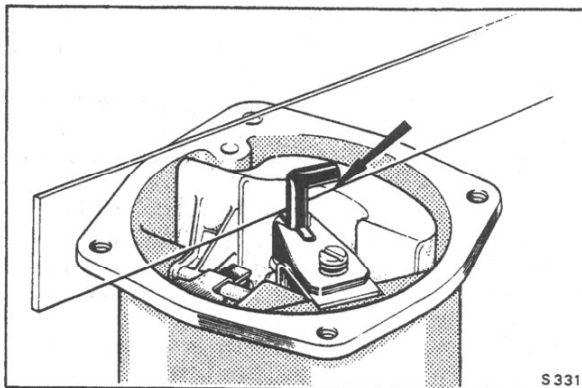

Fig. K84 Checking the float level
5. Check that the lowest point on the float (see Fig. K84) is **below** the float chamber face by the dimensions given in the table.